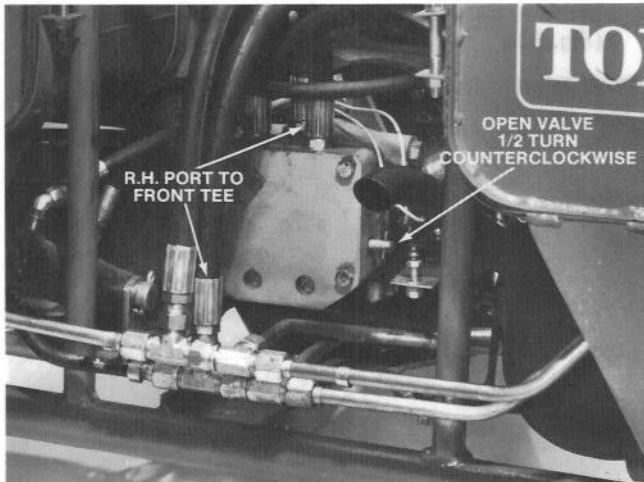
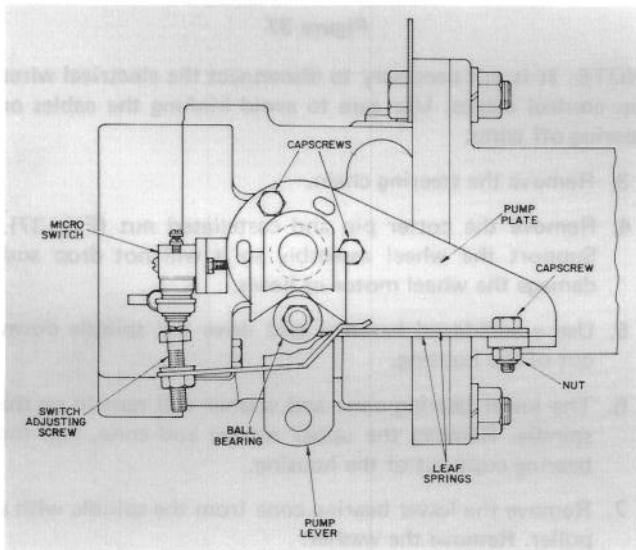

Figure 31
Figure 34
10. Install and connect the hoses in their original positions. The location of most of the hoses is obvious, but the two rear hoses **could** be reversed if the tags were lost. If they are reversed, the rotation of the wheels will also be reversed. The hose from the right hand port on top of the pump must be connected to the front tee (Fig. 31).
2. Lift seat and loosen two (2) capscrews and nuts securing leaf springs to pump plate until bearing drops away from cam on lever allowing pump shaft freedom to rotate during start-up (Fig. 34).
6. Operate the traction pedal in forward and reverse directions. Wheel off floor should rotate in the proper direction. If wheel rotates in wrong direction, stop engine, remove lines from rear of pump and reverse their locations. Refer to page 17, item 11 under Removal and Replacement of Hydraulic Pump. Also refer to Figure 31. If wheel rotates in proper direction, stop engine and tighten capscrews and nuts securing leaf springs (Fig. 34). Adjust traction neutral position: refer to Adjusting For Neutral Position in Traction Drive, page 21.